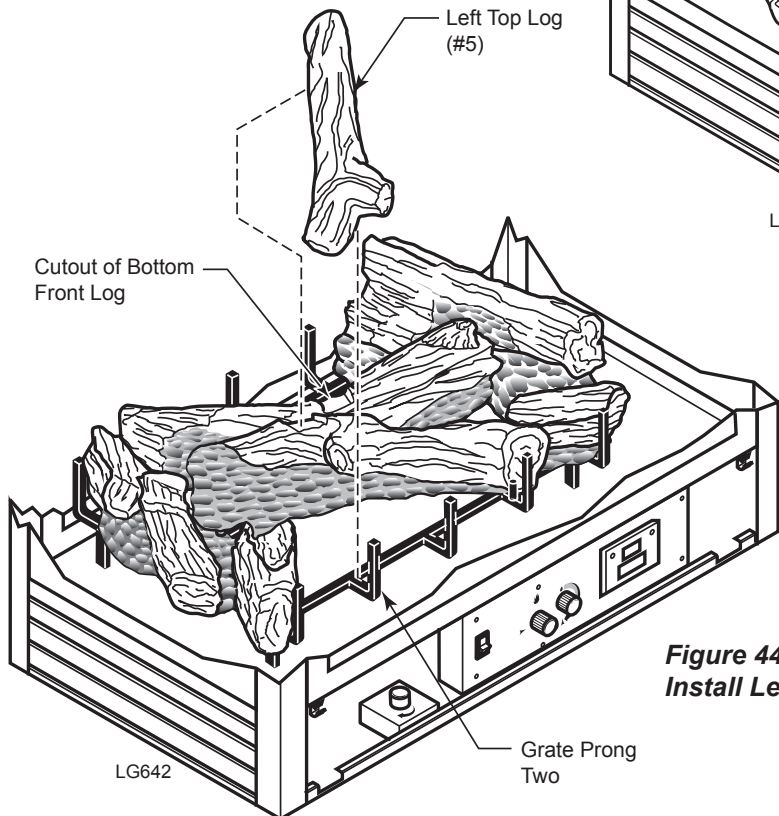

**Figure 42 -
5. Position left end of bottom center back log (#3) beside rear end of left log (#1). Line up pin on grate with pin hole in bottom of center back log (#3) Snug right end of bottom center back log (#3) to the middle of right log (#2). *Figure 42*